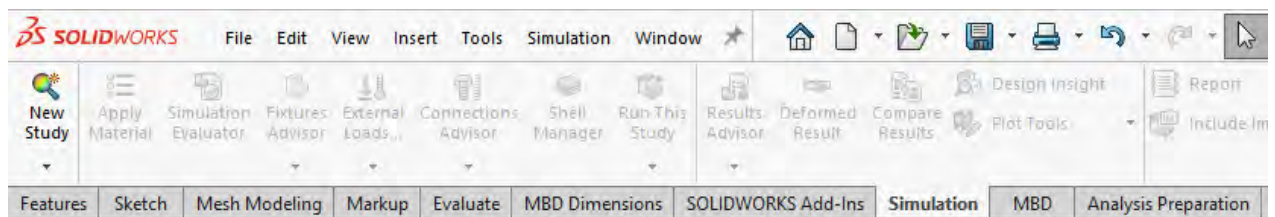

Figure 3 – Simulation tab in CommandManager
1. Go to the Simulation tab in the CommandManager (Figure 3).
2. Click the New Study button (New Study) (Fig. 3).